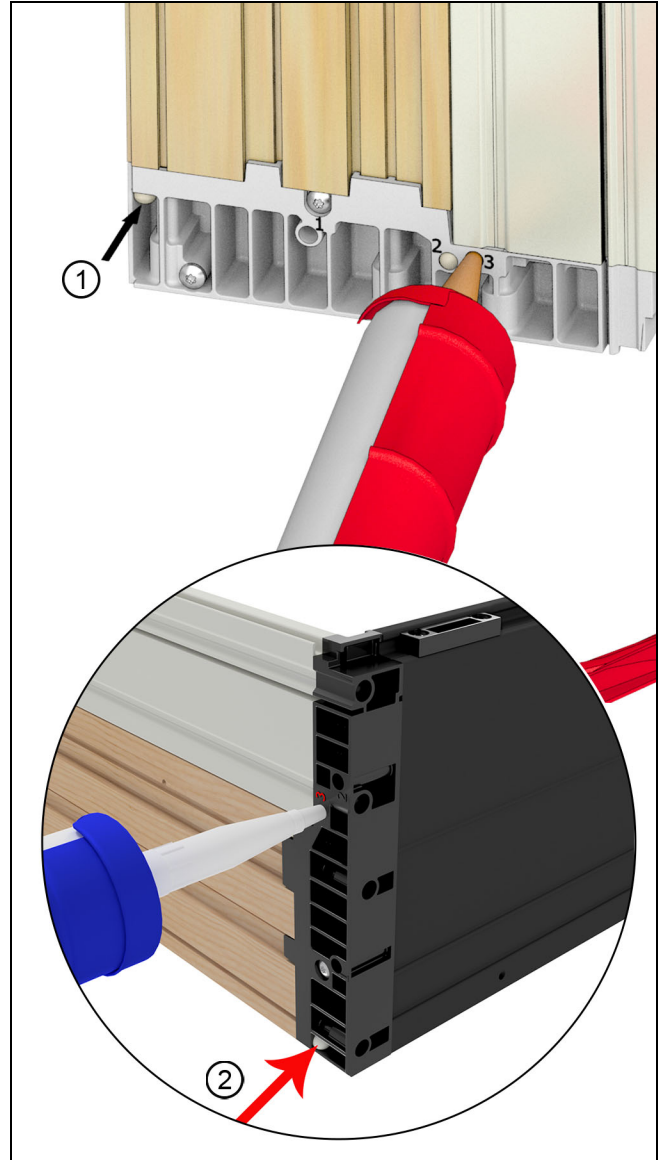

Figure 9 6 9/16"
2. For 6 9/16" Performance sills and all Accessibility sills locate the injection hole labeled "3". Inject into the key until you see squeeze out in the inspection hole shown below. See Figure 9.